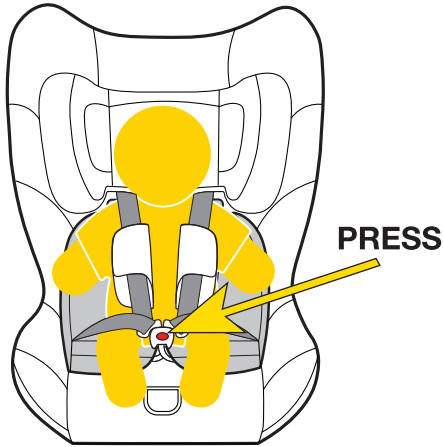

FIGURE 1
STEP 2 To release your child from the restraint simply press the red button on the harness buckle and carefully remove your child from the restraint (refer **Figure 1**).